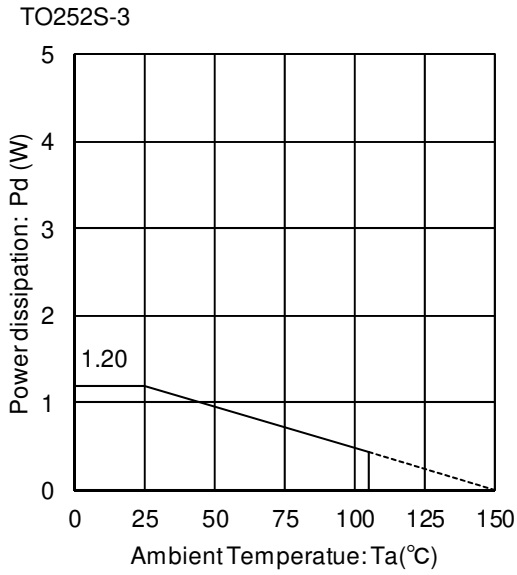
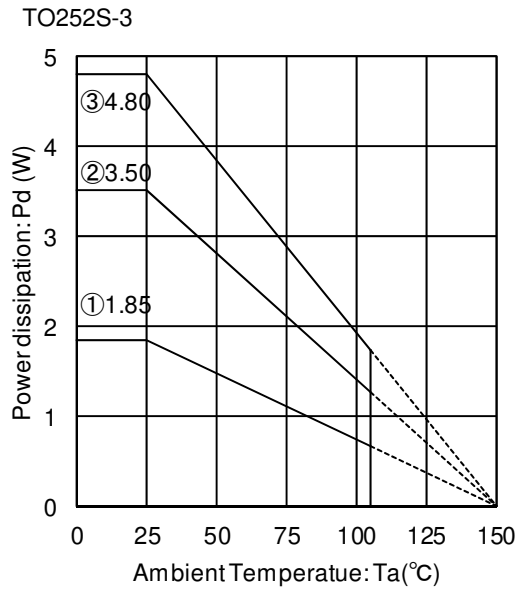

Figure 25.
Figure 26.
When used at temperatures over  $T_a=25^{\circ}\text{C}$ , please refer to the power dissipation curve shown in Figure 25 and Figure 26. The IC characteristics are closely related to the temperature at which the IC is used, so it is necessary to operate the IC at temperatures less than the maximum junction temperature  $T_{j\text{max}}$ .
Figure 25 and Figure 26 show the acceptable power dissipation curve of the TO252S-3 package. Even when the ambient temperature  $T_a$  is at normal temperature ( $25^{\circ}\text{C}$ ), the chip (junction) temperature  $T_j$  may be quite high, so please operate the IC at temperature less than the acceptable power dissipation  $P_d$ .
The calculation method for power consumption  $P_c(\text{W})$  is as follows :(Figure 26③)
( Figure 26③ :  $\theta_{ja}=26.0^{\circ}\text{C/W} \rightarrow -38.4\text{mW}/^{\circ}\text{C}$